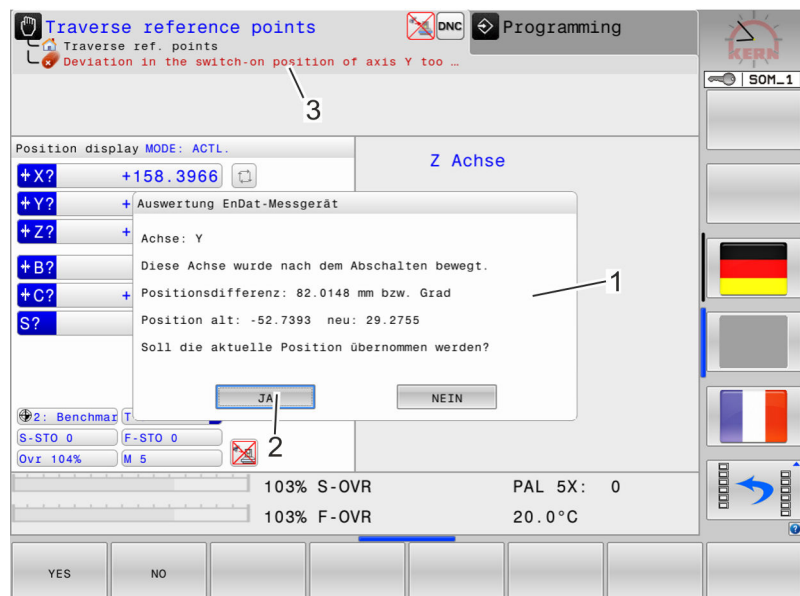

Fig. 42: Deviation in the switch-on position
1. ➔ Confirm the deviation following a visual inspection (Fig. 42/1) with the “YES” button.
2. ➔ Press the [CE] button on the numeric keypad to delete the error message (Fig. 42/1).